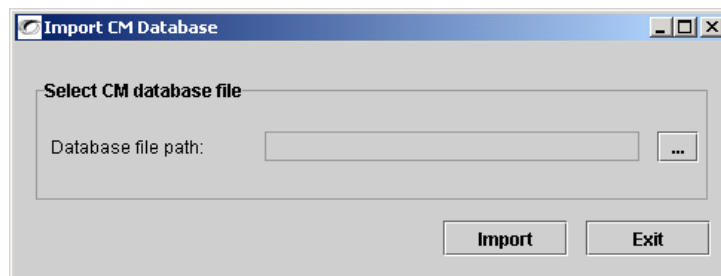

Figure 5-4 Import CM Database Window
7. The Import CM Database window shown in Figure 5-4 will appear. Specify the Database file path (the location of the IM.DAT file) and click on Import.